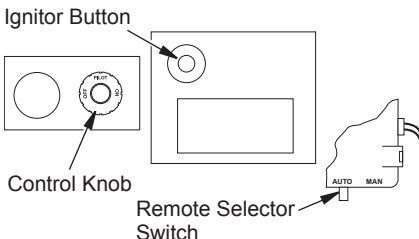

Figure 35 - Remote Selector Switch, Control Knob and Ignitor Button
3. Set remote selector switch in the AUTO position (see Figure 35).
4. Press in and turn control knob clockwise to the OFF position (see Figure 35).
5. Wait five (5) minutes to clear out any gas. Then smell for gas, including near the floor. If you smell gas, STOP! Follow "B" in the safety information on page 20. If you don't smell gas, go to the next step.
6. Press in and turn control knob counterclockwise to the PILOT position. Press in control knob for five (5) seconds (see Figure 35).
Press on/off key on remote control and turn control knob clockwise to the OFF position (see Figure 35).
1. Turn control knob clockwise  to the ON position (see Figure 35, page 21).
When batteries are low, it is not possible to turn on the appliance with the remote control. Appliance can be turned on or off manually by setting the backup switch of the receiver to MAN position (see Figure 35, page 21). Remote control and receiver will restart normal operation after batteries are replaced. See *Installing Batteries for Remote Receiver and Hand Held Remote Control*, page 19.